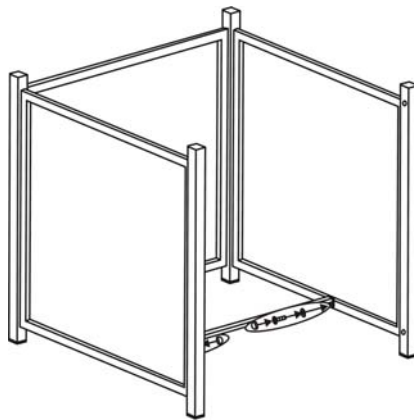

Figure 3
3. Attach the middle support to the side panels by using four 1/4"x15 mm bolts and washers as shown in Figure 3. Guide the bolts through the holes in the middle support, into the pre-drilled holes in the side panels. **Hand tighten only.**